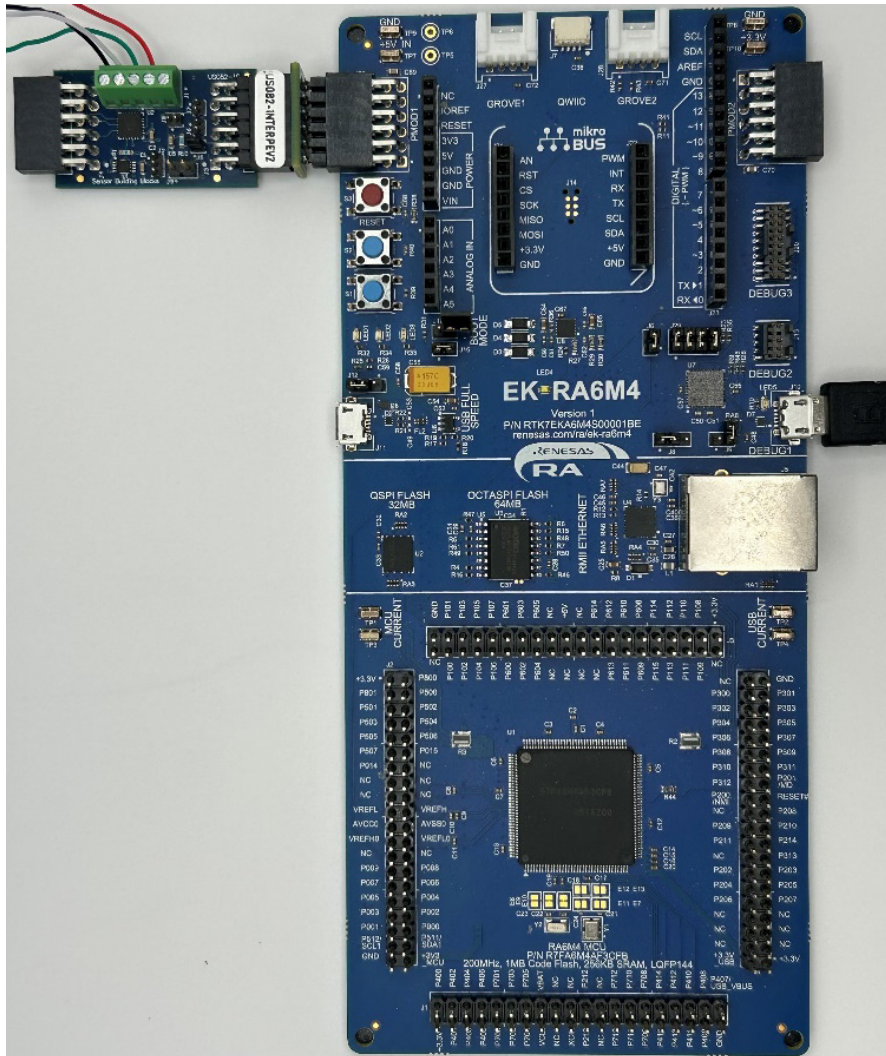

Figure 4. US082-SSC3240EVZ with EK-RA6M4 MCU Kit
4. Plug the US082-SSC3240EVZ board into the US082-INTERPEVZ on the PMOD1 connector. Ensure all pins are properly aligned (see Figure 4).